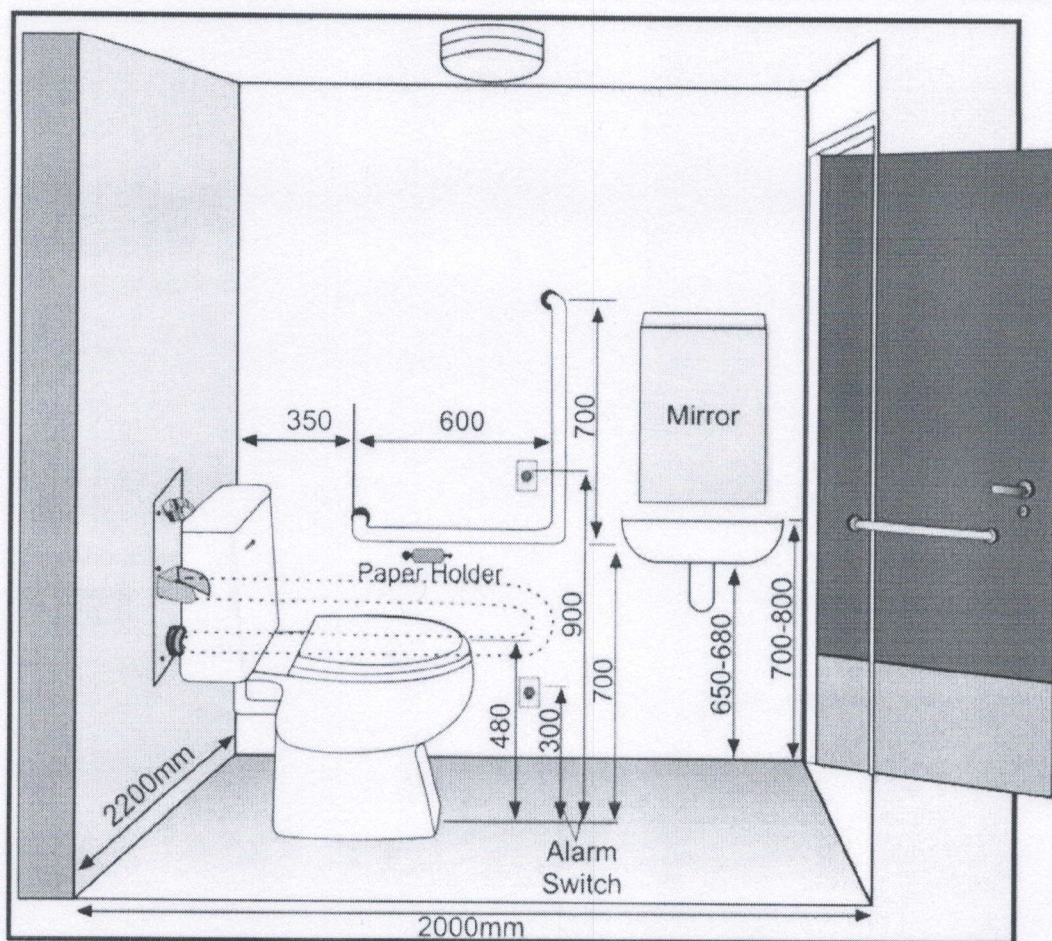

Figure 12.2: Layout plan of unisex accessible toilet
- Minimum internal dimensions of 2200 X 2000 mm minimum (Figure 12.2);
- The top of the water closet seat should be 450 to 480 mm from the floor, as shown in the figure 12.2, when the water closet does not have the required height, the necessary height may be obtained by providing a circular base under the water closet. The base so provided must not protrude beyond the circumference of the base of the water closet;